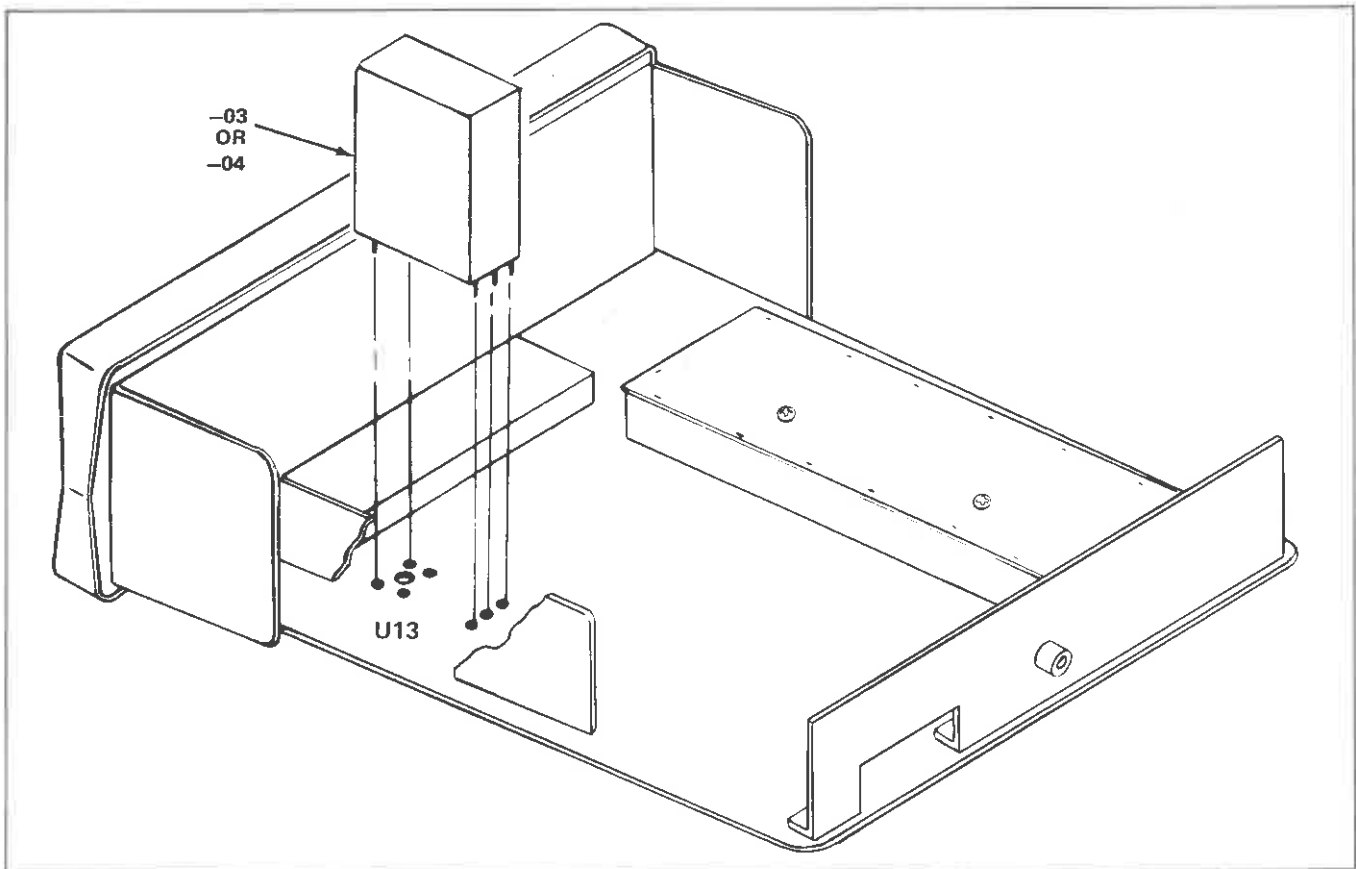

Figure 603-2. -03/-04 TCXO Assembly
- 603-5. The -03 TCXO is a completely sealed unit, containing no replaceable parts (See Figure 603-2).
- 604-5. The —04 TCXO is a completely sealed unit, containing no replaceable parts (See Figure 603-2).